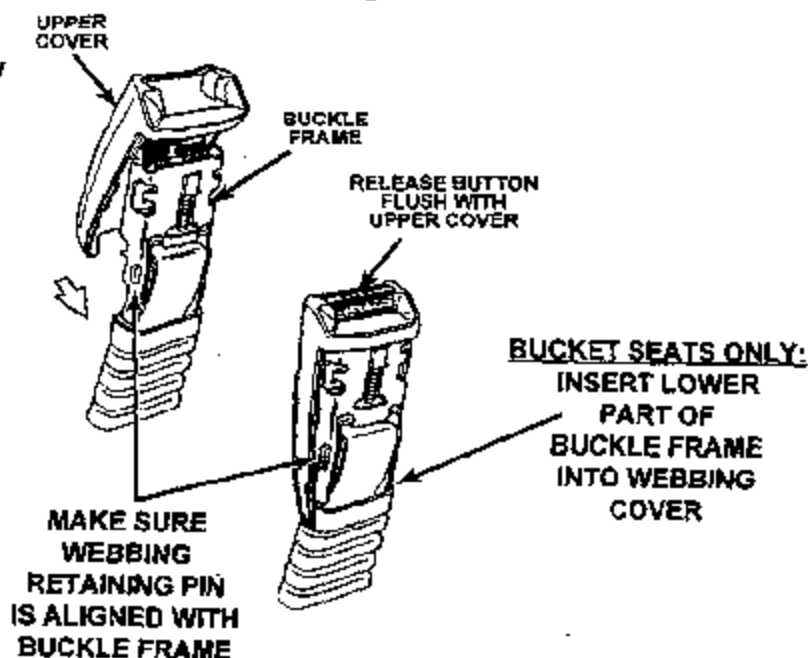

Figure 12
18. Install the provided upper buckle cover over the buckle mechanism (Figure 12). The cover should snap into place and the release button should be flush with the buckle cover. Verify again that the buckle operates properly by latching and unlatching the seat belt tongue several times.